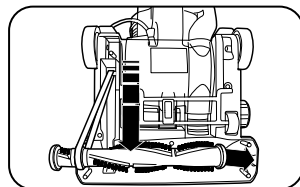

Fig. 5
4. Pull the brushroll forward (against the pull of the belt) and reinsert the ends back into the nozzle (Fig. 5) making sure to line up the end opposite the belt so the flat edges slide down properly.